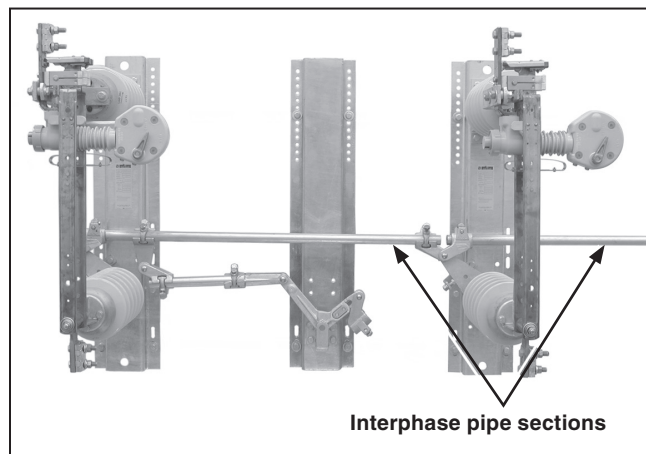

Figure 12. Pipe connecting the switch poles.
- STEP 10.** Install the horizontal pipe sections connecting the switch poles and the bell-crank assembly. See Figure 12. Follow the directions in the “Installing Pipe Couplings with Piercing Set Screws” section.